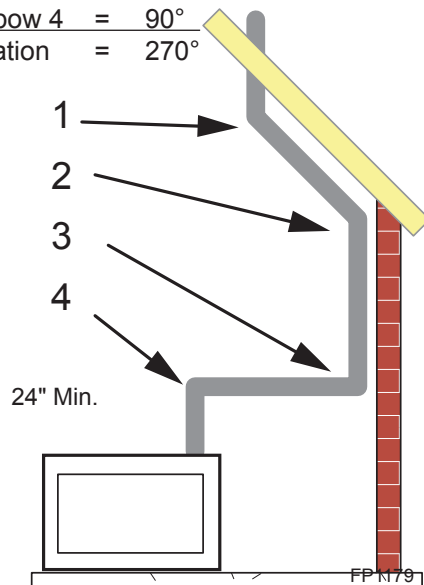

Figure 22 - Maximum Elbow Usage
- Two sets of 45° elbows offsets may be used within the vertical sections. From 0 to a maximum of 8' (2.5 m) of vent pipe can be used between elbows. Figure 22
- The maximum angular variation allowed in the system is 270°. Figure 22
NOTE: Pay special attention to these installation instructions for required clearances (air space) to combustibles when passing through ceilings, walls, roofs, enclosures, attic rafters, etc. Do not pack air spaces with insulation. Also note maximum vertical rise of the venting system and any maximum horizontal offset limitations. Offsets must fall within the parameters shown in Figures 22 and 23.